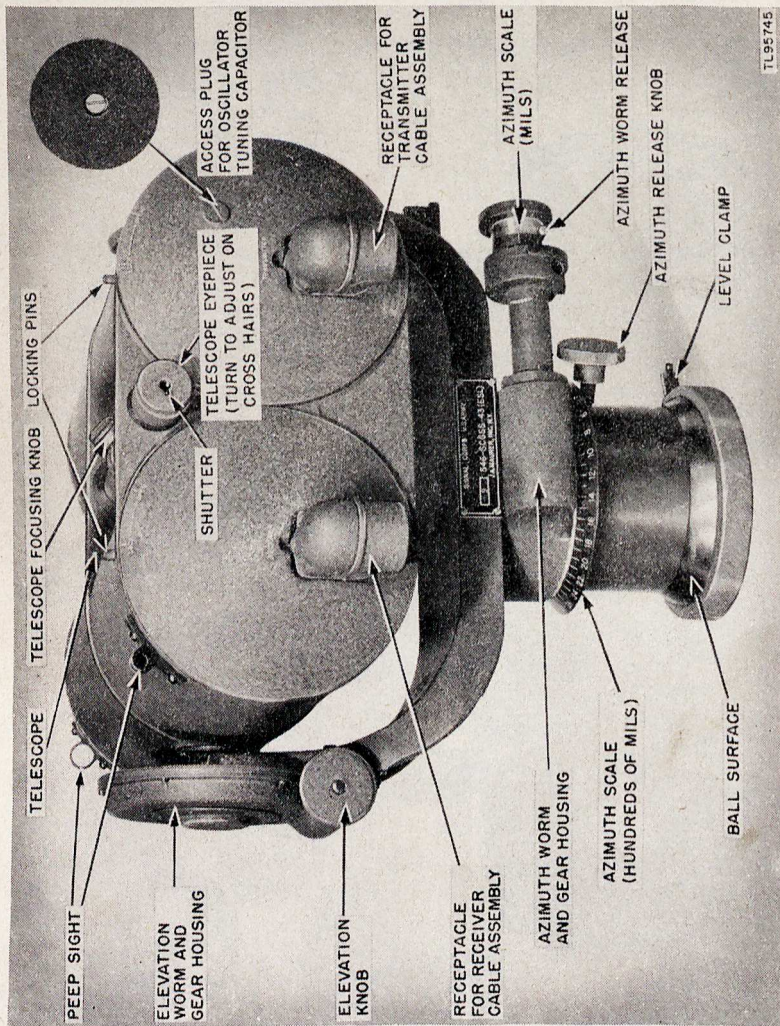

Figure 5. Optical unit, end view.
A removable cover at the rear of the chamber serves as a mounting for an oscillator. A four-pin male receptacle mounted on the cover provides a means of connecting the cable from the control unit to the oscillator (fig. 5). A small knob on the right side of the chamber serves as a means of placing the dark-red filter between the optical system and the lamp. One side of the transmitting chamber is fastened by an axle to a bearing on the yoke and the other side is cast to the receiving chamber.
b. Receiving Chamber. The receiving chamber is similar in appearance to the transmitting chamber, and mounted in it are a two-lens optical system and aperture plate. A removable cover at the rear of the chamber serves as a mounting for the phototube and receiver pre-amplifier. A five-pin, male receptacle, mounted on the cover, provides a means of connecting the pre-amplifier by means of a cable to the receiving amplifier in the control unit (fig. 5). The left side of the receiving chamber is fastened by a short axle to a gear mounted in a housing on the yoke. This gear meshes with a worm which can be turned by a knob mounted on the left rear side of the yoke (fig. 5). Rotation of this knob will result in a change of elevation of both the transmitting and receiving chambers.